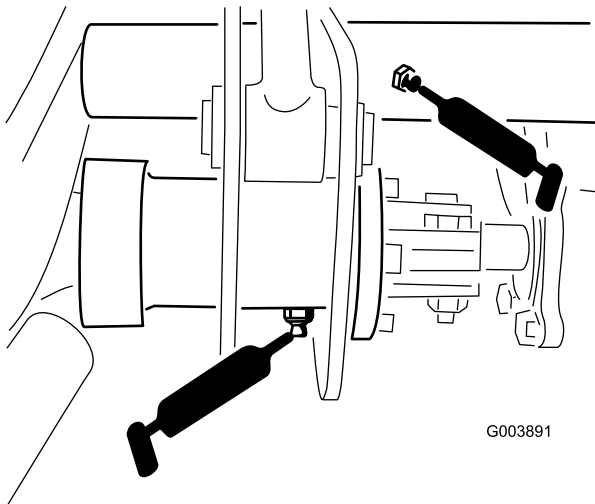

Figure 44
- 5 fittings on the lift arm pivots (Figure 44)
- 1 fitting on the drive shaft clutch (Figure 44)